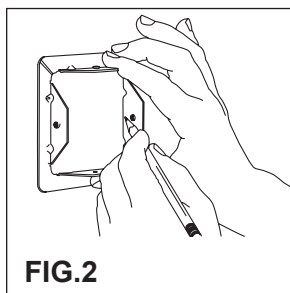

FIG.2
- i.) Mark a nom. 1-3/4" (44 mm) square opening. Make sure opening is square and plumb. The inside opening of the wall plates can be used as a template (See Fig. 2).